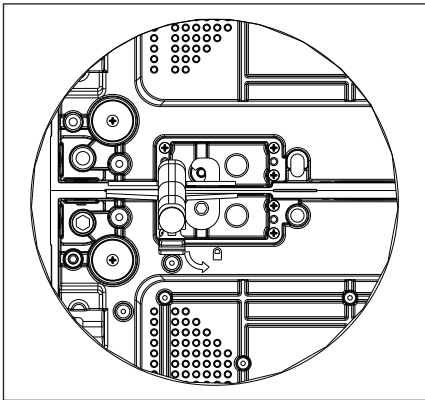

Figure 10: Engage Draw Latches
- 5. Engage the draw latches. Refer to **Figure 10**.